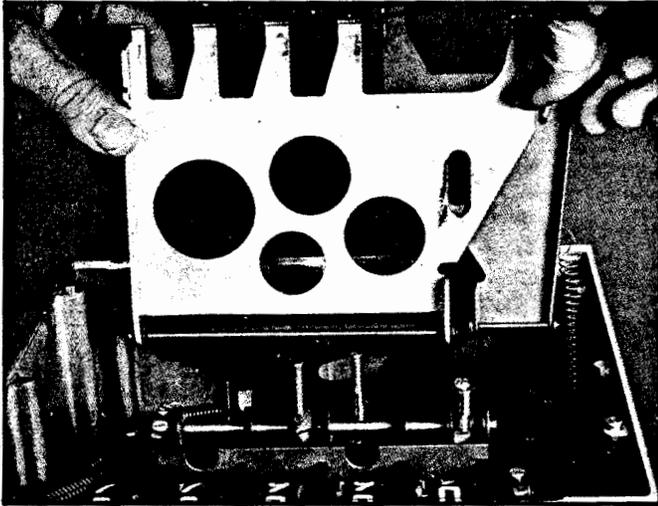

Figure 6-7 Lifting the First and Second Stage Rakes.
- C. Lift the First and Second stage rakes away from the wheels (Refer to Figure 6-7).